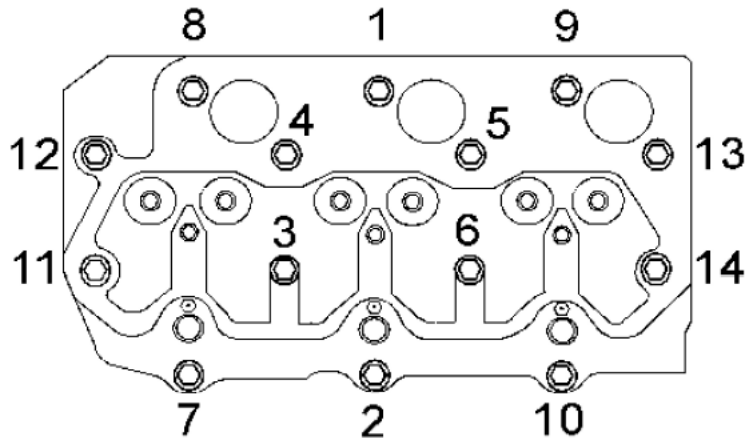

Figure 2. Head Bolt Torque Sequence
2. Repeat the procedure in step1 to ensure that all of the bolts are tightened to the correct torque and sequence in Figure 2.